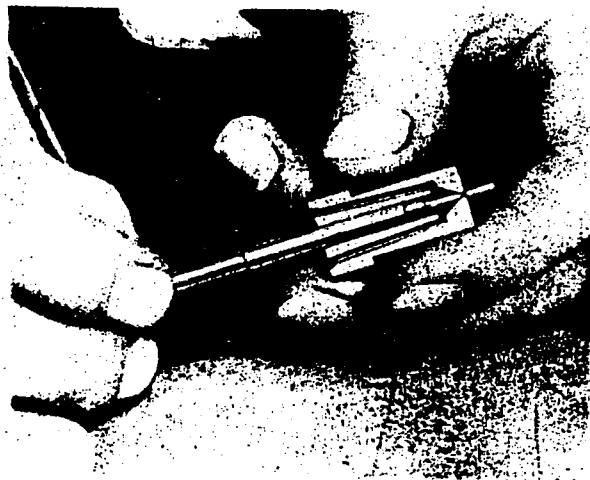

FIG 130
5. For cleaning the orifice in the face of the nozzle body use the pintle hole cleaner (ET.069) and select an appropriate size probe from those supplied with the kit and fit it into the tapered hole in the smaller end of the brass holder for the earlier injectors, or the other end for the later ones. Pass the probe down the bore of the nozzle until it protrudes through the orifice, then rotate the nozzle, using only a light pressure, until all the carbon is clear, as shown in Fig. 130.